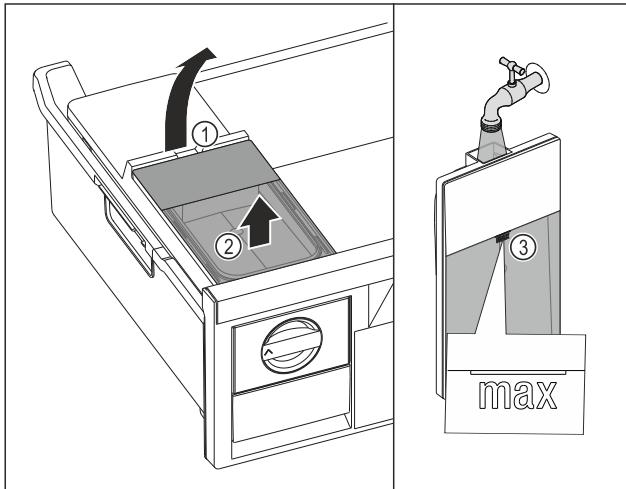

Fig. 152
- Lift the water tank at the recess Fig. 152 (1).
- Remove the water tank by lifting it upwards. Fig. 152 (2).
- Fill the water tank with drinking water up to the mark Fig. 152 (3).